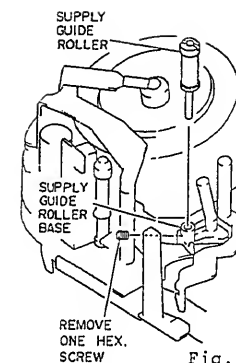

Fig. 2-74
1. Remove one (1) hex screw holding the supply guide roller. (See Fig. 2-74)